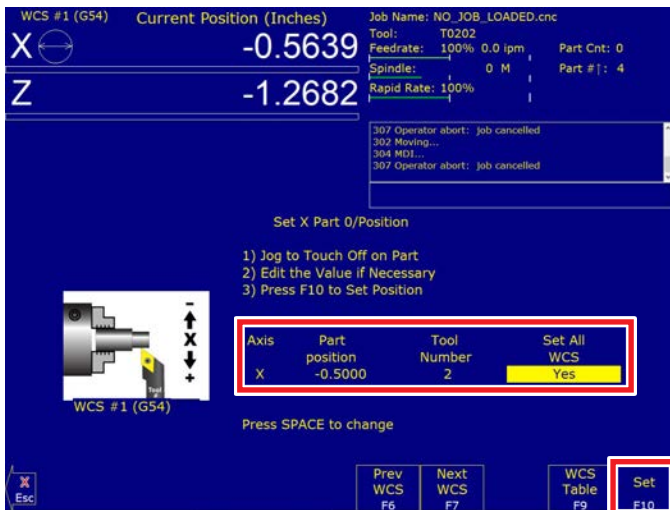

FIGURE 48
G. Jog the tool into position to touch the diameter of the part. Our part is .500” diameter. Our tool is on the backside of the part. For our tool on this part we will be setting the X-axis at (-0.5000) Part Position, Tool Number 2, and “Yes” for Set All WCS. Then click on Set F10 (see Figure 48).